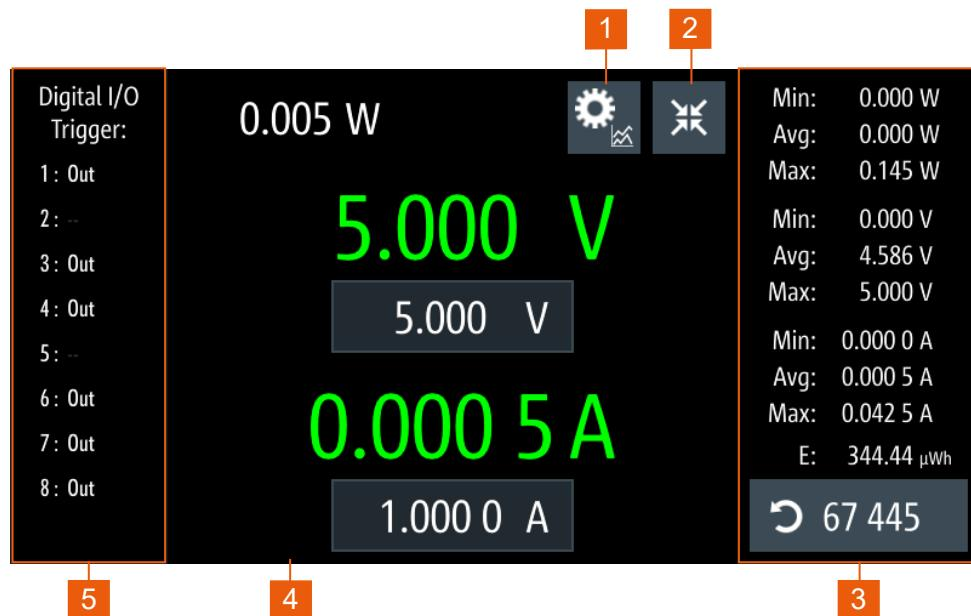

Figure 3-11: Detailed channel display window
The "Expand/Collapse" softkey,  opens/closes the detailed channel display window which provides additional information, such as the channel historical information and the optional digital I/O trigger configuration. See Figure 3-11.
- 2 = "Expand/Collapse" softkey toggles between home window and the detailed channel display area window, see Figure 3-11